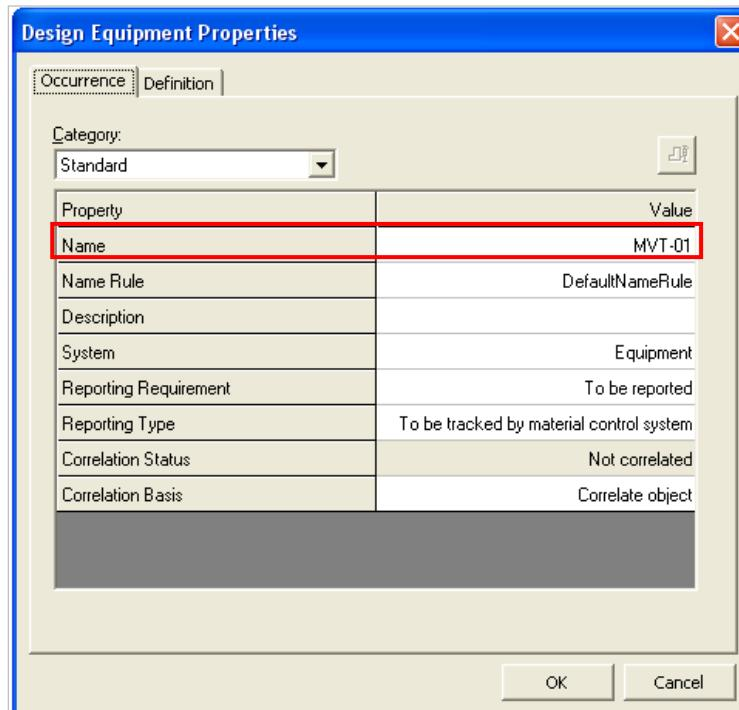

Figure 41: Design Equipment Properties Dialog Box
5. Click **OK**. The **Design Equipment Properties** dialog box opens, as shown in Figure 41.